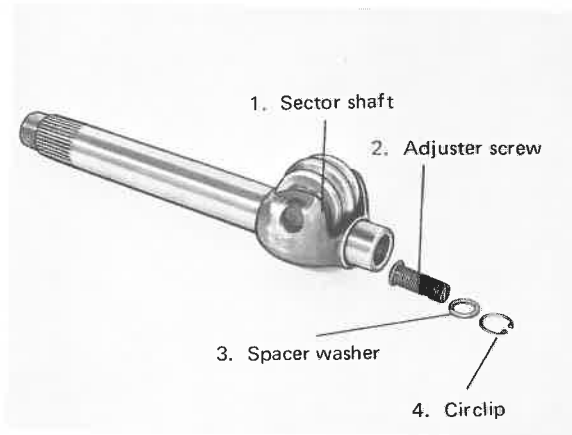

Fig. 64-16. Sector shaft
3. Check the axial clearance on the adjuster screw. It may not exceed 0.05 mm (0.002"). If this is the case, adjust the axial clearance with the spacer washer (3) according to Fig. 64-16. Spacer washers are available in thicknesses 2.10-2.50 mm (0.083-0.098") in steps of 0.05 mm (0.002"). The adjuster screw is released by removing the circlip (4, Fig. 64-16). The clearance should be as small as possible. However, it is important that the adjuster screw can be turned easily after adjustment.